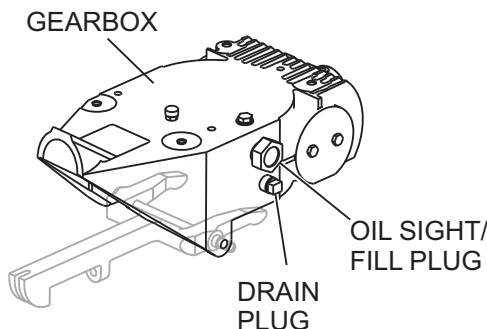

Figure 19. Gearbox
1. Determine if the **gearbox** oil is low by removing the oil plug located on the side of the gearbox. This plug will be marked by the "**check**" decal. See (Figure 19). The correct level of the lubrication oil should be to the bottom of the fill plug.